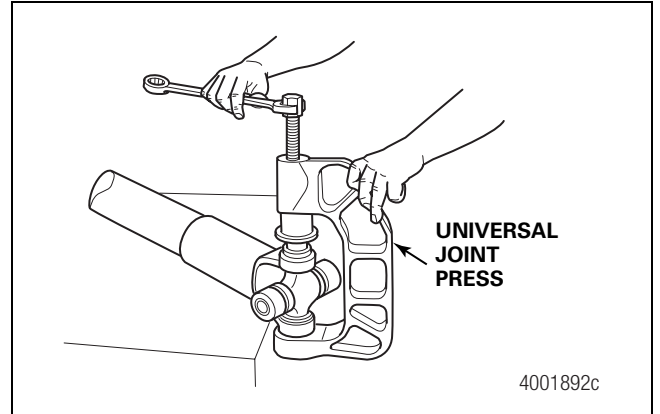

Figure 8.12
1. Position the universal joint in a suitable universal joint press. Figure 8.12. Refer to the Service Notes page on the front inside cover of this manual for information to obtain this tool.